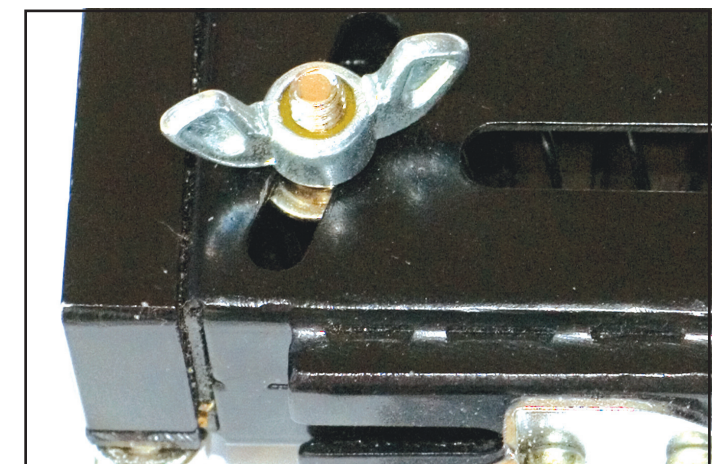

Figure 3
See **Figure 3**.
9. Fine tune screw depth by first unplugging screwgun from electrical supply, then adjusting depth control as shown in **Figure 3**.